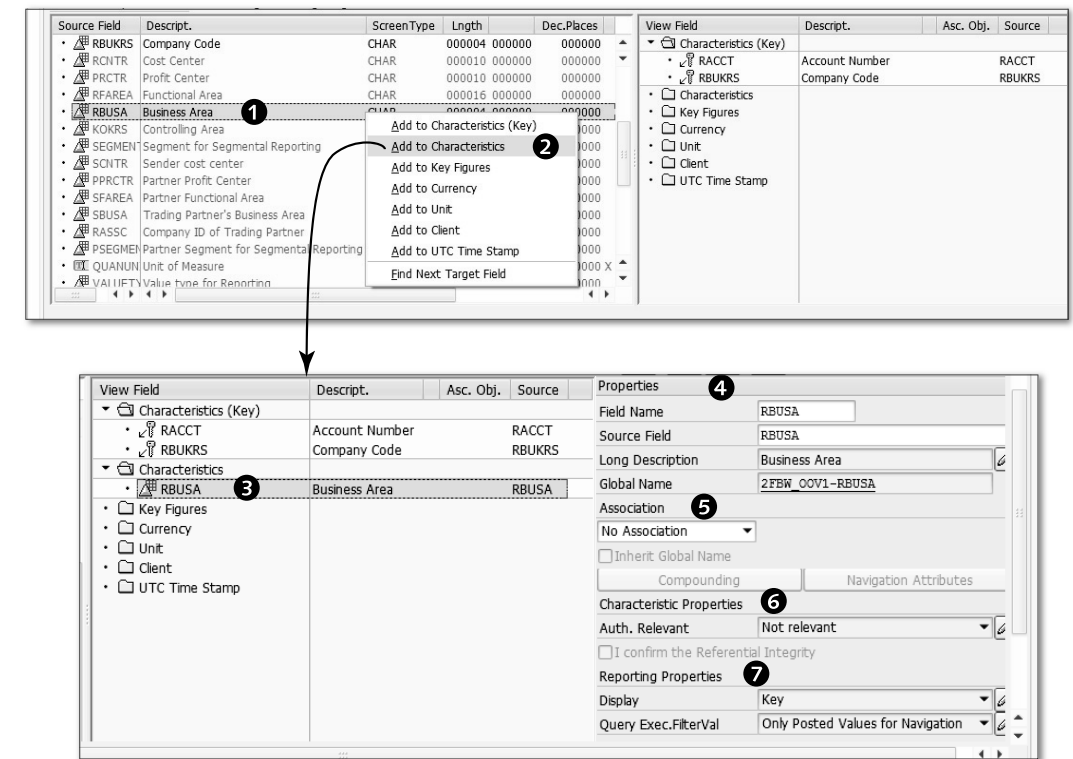

Figure 6.82 Adding to the Characteristics Section
Now let's discuss how to add a field under the CHARACTERISTICS section of VIEW FIELD. Select the RBUSA (BUSINESS AREA) field (1), and from the context menu, select ADD TO CHARACTERISTICS option (2), as shown in Figure 6.82.
This action places the RBUSA field under the VIEW FIELD section as shown in (3) of Figure 6.82. For each field under VIEW FIELD, you can set a number of properties. Open the PROPERTIES section (4) using any of the methods explained earlier. You can set ASSOCIATION (5), CHARACTERISTIC PROPERTIES (6), and REPORTING PROPERTIES (7) for each field. Each InfoObject created in SAP BW also has associated technical and semantic properties. You can take advantage of the associated properties of an InfoObject by associating fields of an OOV with the InfoObject. By associating the InfoObject with the fields, you can include InfoObject navigational fields and use the reporting properties in the design of the OOV.